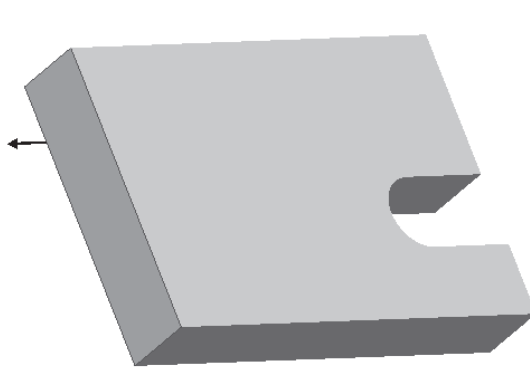

Figure 4-77 Arrow showing the direction of viewing the model
- Create the second feature on the left face of the base feature, refer to Figures 4-77 through 4-81.
3. Using the middle mouse button, spin the model, as shown in Figure 4-77.
5. Choose the **Flip** button to flip the yellow arrow and to change the direction of viewing the sketching plane, as shown in Figure 4-77.